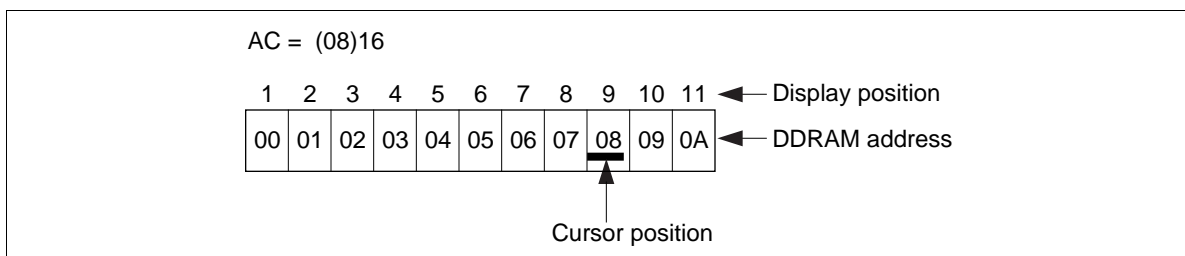

Figure 10 Cursor/Blink Display Example
For example (Figure 10), when the address counter is (08)H, a cursor is displayed at a position corresponding to DDRAM address (08)H.